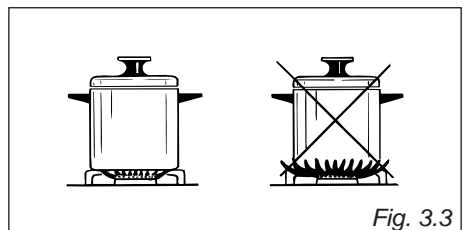

Fig. 3.3
- Unscrew cable clamp “D” (fig. 3.3).